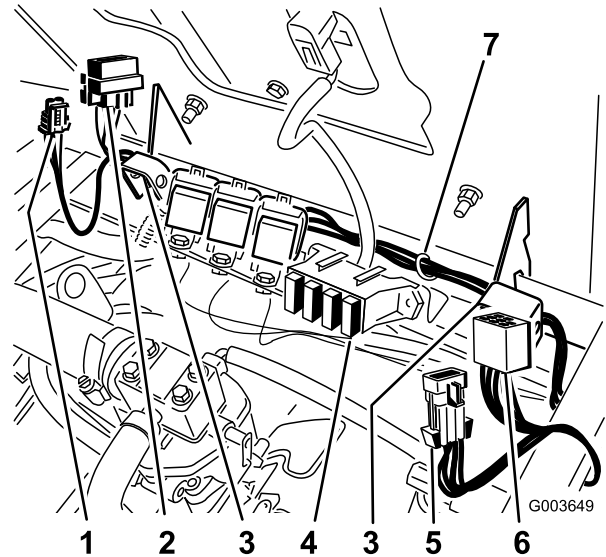

Figure 33
3. Route the harness along the seat hinge from the switch and to the relay previously installed to the valve (Figure 33).
Install the fuse into right slot in the fuse block (Figure 33).